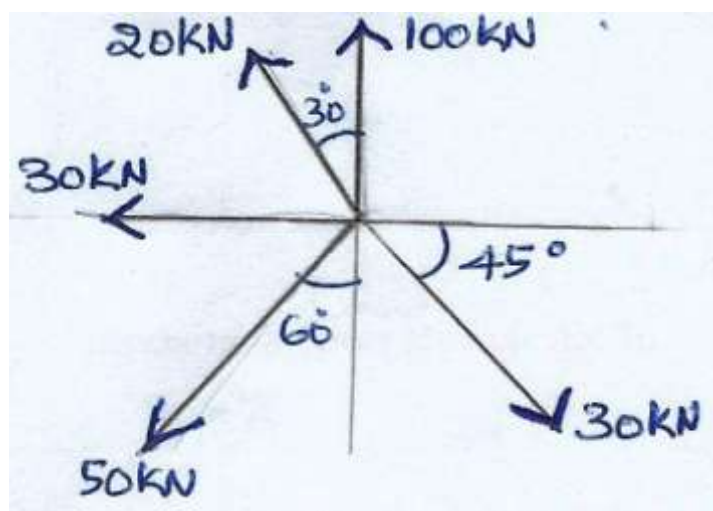

Fig. 4c
- (c) Determine the magnitude & direction of resultant force for coplanar concurrent forces shown in fig. 4c 10